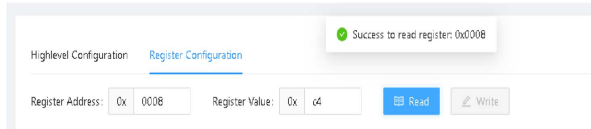
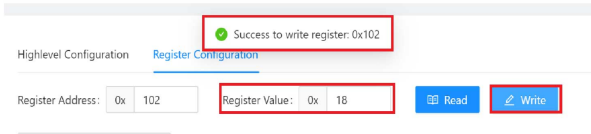

Figure 33. Reading Individual Register
Figure 34. Writing Individual Register
5. To read or write an individual register, click the **Register Configuration** tab. To check a register, enter the address in the **Register Address** field and click **Read** (see Figure 33). To change a register, enter the value in the **Register Value** field and click **Write** (see Figure 34). See the **ADPD6000** data sheet for the detailed values of the registers.